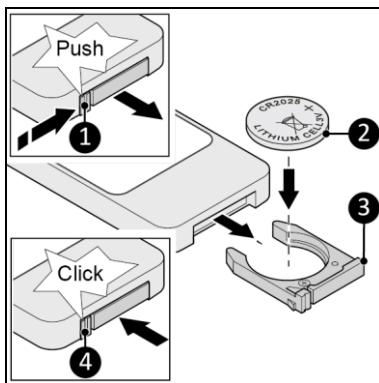

Figure 5
1. Press the tab (Figure 5, pos. 1) and remove the battery compartment from the remote.
2. Correctly insert a CR2025 type battery as indicated (Figure 5, pos. 2).
3. Slide the battery compartment back until the tab snaps into place (Figure 5, pos. 4).